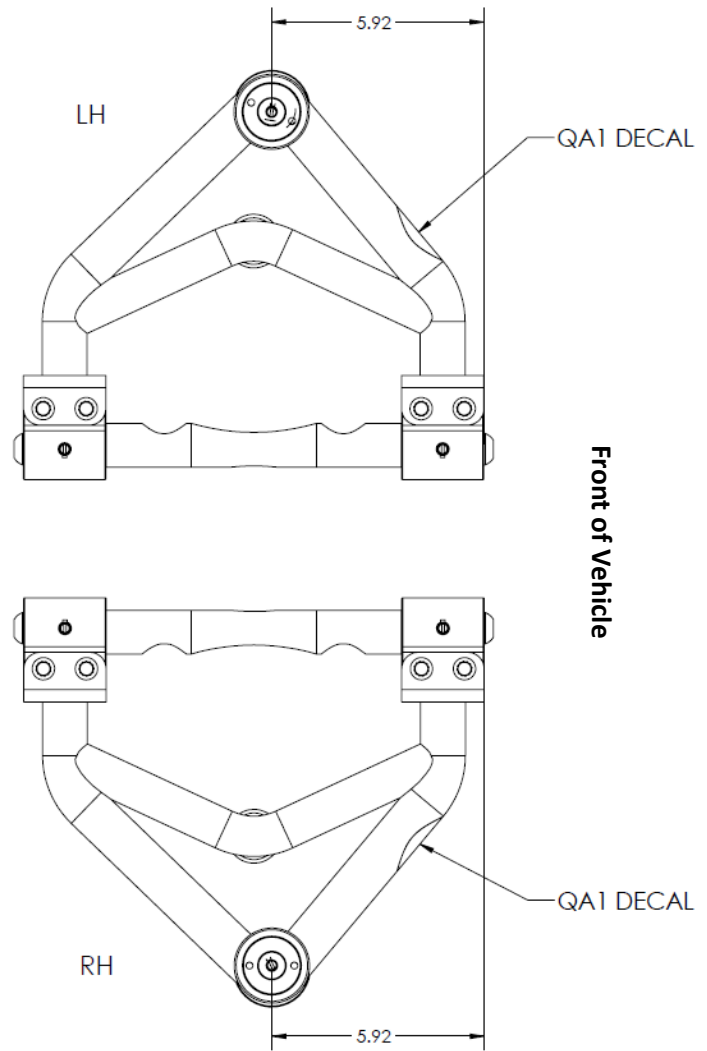

Figure 17; Upper Control Arms
6. Install the provided concave spacers, then the QA1 upper control arm or '63-'72 OE upper control arm with the flat side of the cross shaft towards the mount (**Figure 8**). Torque the nuts to 70 lb. ft. See **Figure 17** for control arm identification.